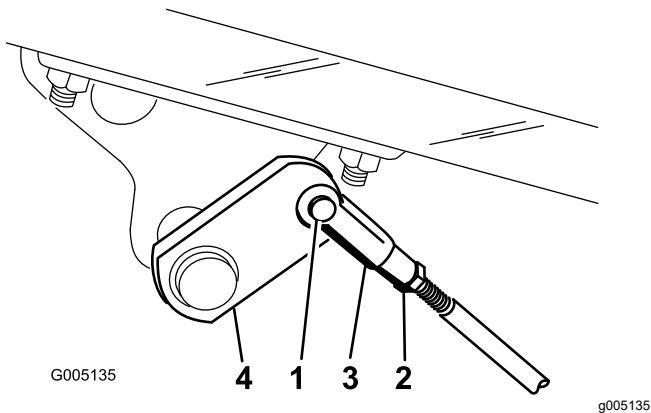

Figure 50
- A. Disconnect the brake rods by removing the cotter pin and clevis pin (Figure 50).
- B. Loosen the jam nut and adjust the clevis accordingly (Figure 50).
- C. Assemble the clevis to the brake shaft (Figure 50).